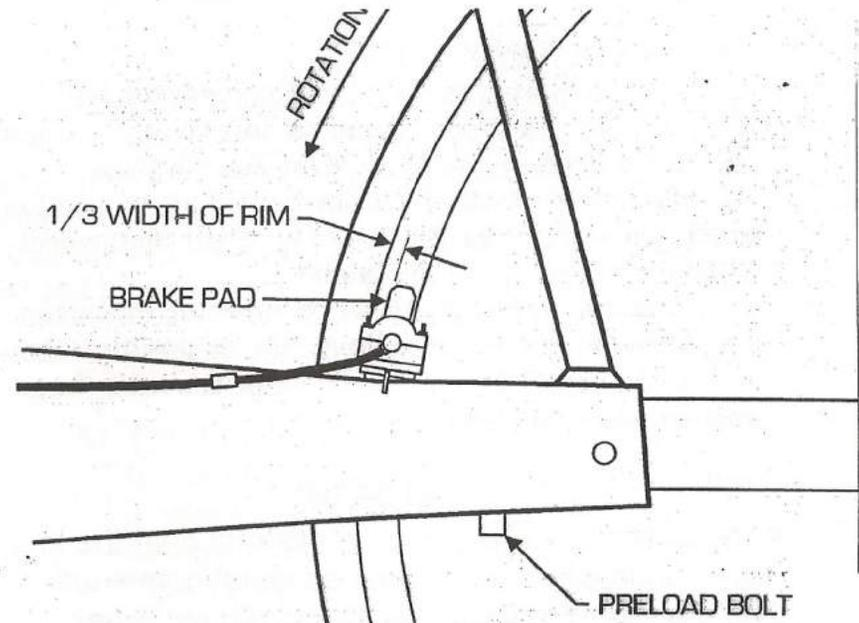

Fig. 2.2
The rear suspension preload bolts are located under the chain stays (see Fig. 2.2). These preload bolts are used to limit the initial amount of suspension movement, caused by the rider sitting on the seat. Note that when the rider sits on the seat, the rear suspension compresses, causing the rear rim to move upward and slightly forward, away from the rear brake pads.
- A) Tighten the preload bolts so that, when the rider sits on the seat, the wheel only moves 1/3 the width of the rim, as seen at the brake pads. (see Fig. 2.2).